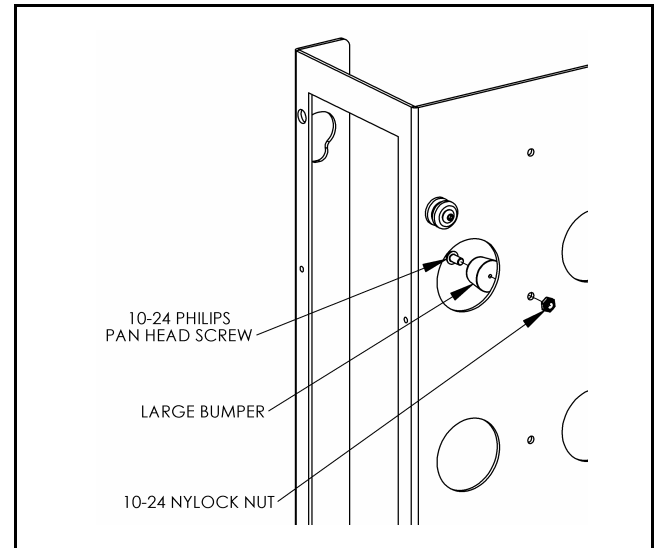

Figure 3
2. Attach large bumpers (D), making sure the CPU will rest against the bumpers when installed. (See Figures 3 & 4)